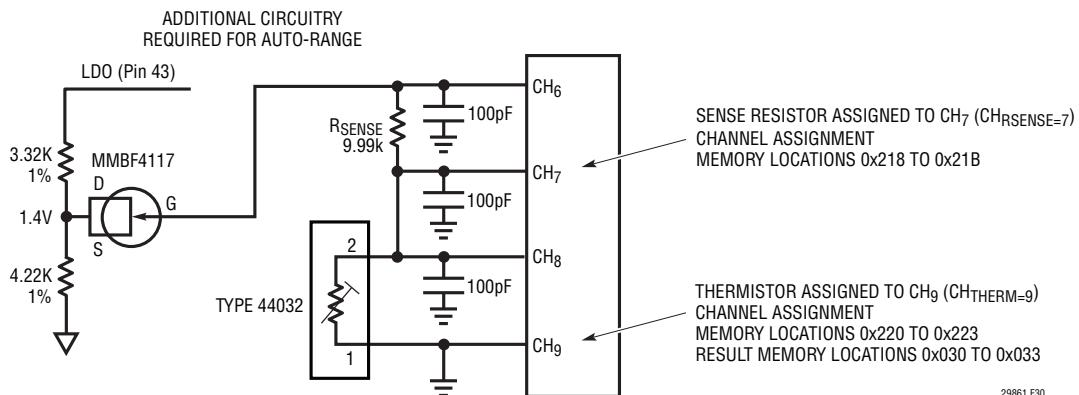

Figure 30. Differential Thermistor Example
\*Additional Circuitry required for auto-range, see Figure 30 on page 56.
Figure 30 shows a typical temperature measurement system using a differential thermistor. In this example a  $30\text{k}\Omega$  (44032 type) thermistor is tied to a  $9.99\text{k}\Omega$  sense resistor. The thermistor is assigned channel CH9 (memory locations 0x220 to 0x223) and the sense resistor to CH7 (memory locations 0x218 to 0x21B). Channel assignment data is shown in Table 62 and Table 63).
(5) Custom RTD Data Pointer	Not Custom	12	000000000000									0	0	0	0	0	0	0
**Note 1:** Additional Circuitry required for thermistors using auto-range. See Figure 30.